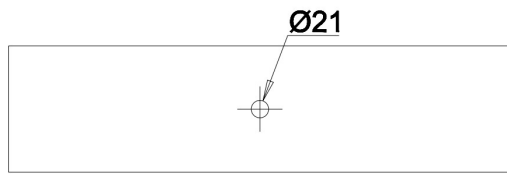
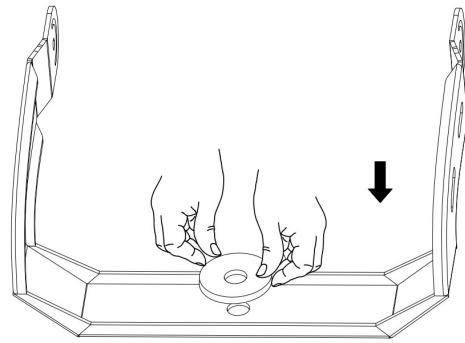

FIG.7
FIG.8
2) Drill one hole on the plane, diameter 21mm, put fix plate on the bracket.(See FIG.7 and FIG.8)